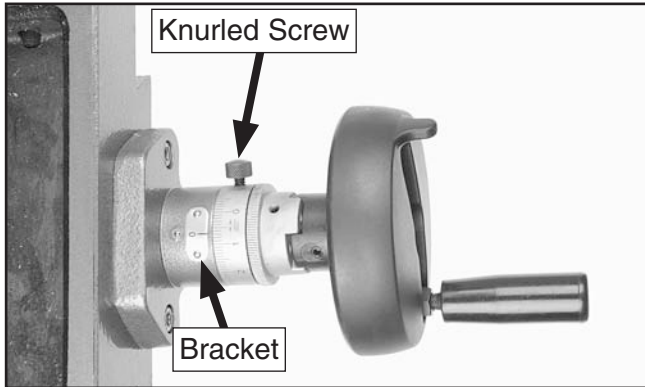

Figure 42. X-axis handwheel features.
- Loosen the knurled screw (see **Figure 42**), align the 0 mark on the handwheel bracket with the corresponding 0 mark on the handwheel, then tighten the screw.